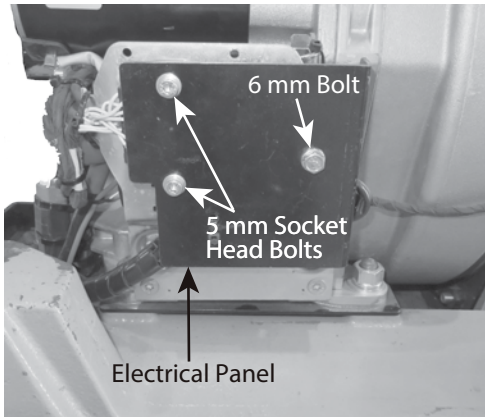

Figure 35. Electrical Panel Bolt Removal
1. Remove and set aside the 6 mm bolt and two 5mm socket head bolts securing the electrical panel on the front of the unit (Figure 35).